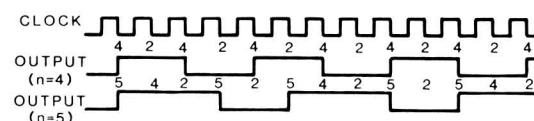

Figure 14-8. Timing Mode 3
**Square Wave Rate Generator (Mode 3)** — Figure 14-8 illustrates Mode 3. In this mode, the counter is decremented by two each clock cycle, rather than one, effectively cutting the time it takes to reach zero in half.